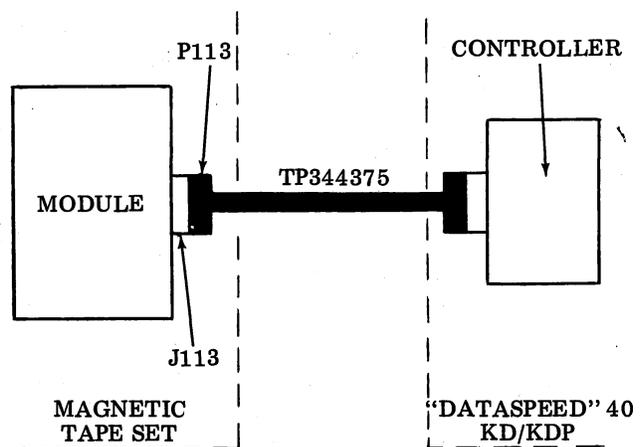

Figure 16 - Magnetic Tape Set Interfaced to DATASPEED 40 for Local Operation
3.50 The interconnection (Figure 16) is achieved by the installation of the TP344374 modification kit consisting of a TP344375 cable, a TP322484 circuit card, a TP197464 diode, and seven TP344373 straps. Install as follows: